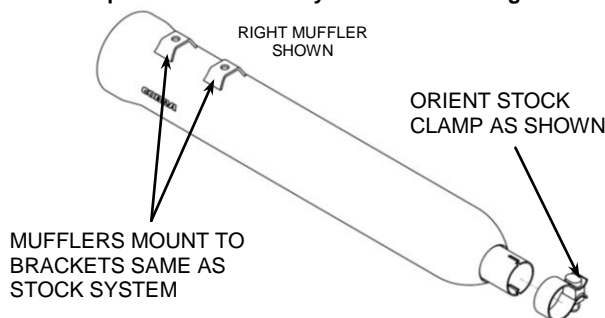

FIGURE 1
3. Slide the stock clamps over the slip-on mufflers and position them as shown in **Figure 1** with the hex head facing inward and towards the ground.